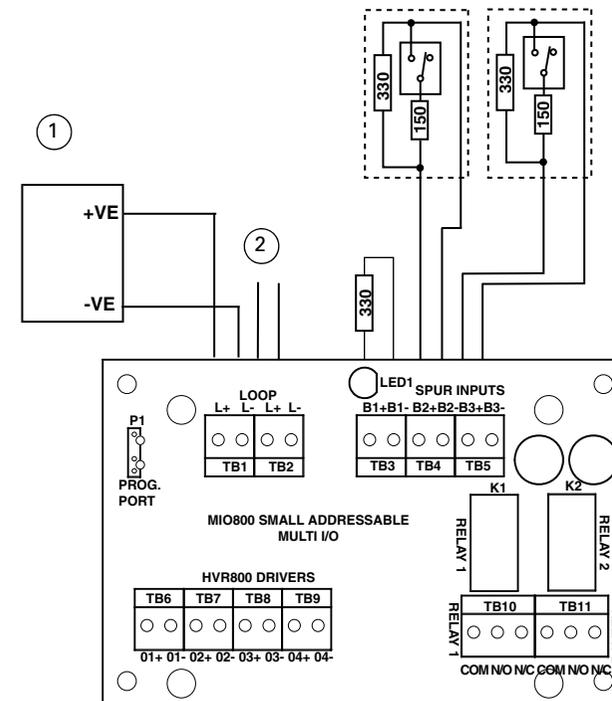

Fig. 5: Spur Circuits (Class B) Normally Open Contacts
- See Figs 5 to 7 for MIO800 simplified wiring diagrams.